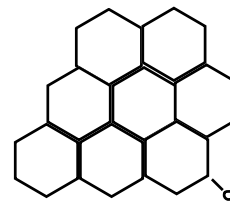

Fig. 3 The top layer.
3. Continue connecting alternating zinc and sulfide ions to this hexagon forming seven more hexagons. (Fig. 3) Follow the same pattern as in step 1 with the sulfide ions pointing down and zinc ions pointing up. This arrangement is the top layer. The small circle in the lower right hand corner is a sulfide ion.